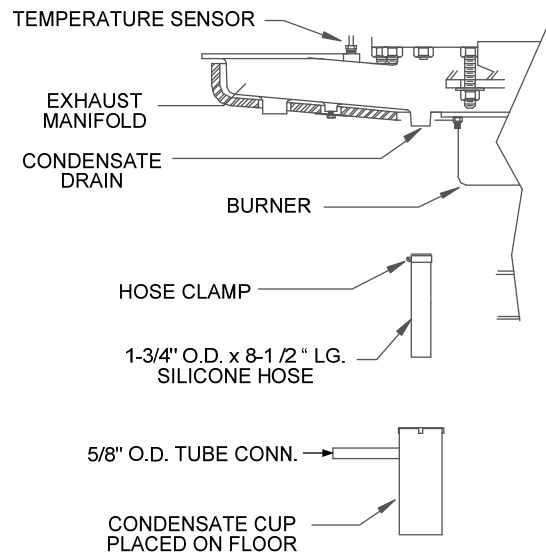

Figure 2.6
1. Remove the left side panel and only the left half of the rear cover to provide access to the exhaust manifold and burner (Figure 2.6).
2. Insert the 1-3/4 inch manifold drain hose into the condensate cup. Allow the cup to rest on the floor directly beneath the manifold drain hole (Figure 2.6).